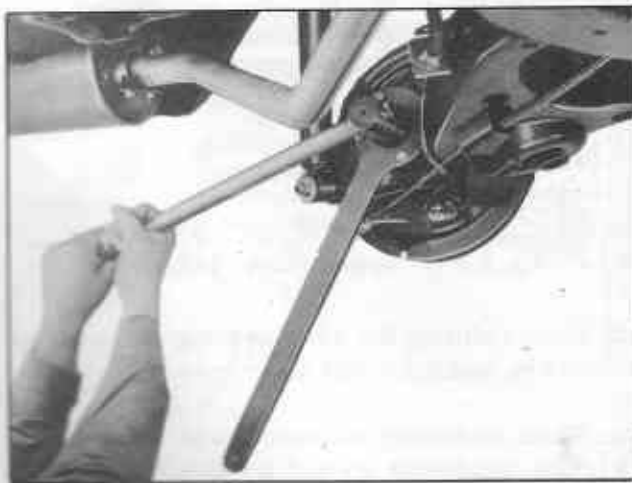

Fig. RA-15 Removal of wheel bearing lock nut
4. Remove the wheel bearing lock nut using axle shaft flange wrench (special tool ST49190000) to hold the companion flange as shown in Figure RA-15.